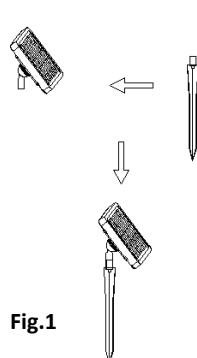

Fig.1
- Choose a place to locate the unit where there is abundant and unobstructed sunshine during the day. Any cover or shade on the solar panel will affect its performance to charge the battery resulting in a shorter run time of the light during the night (Fig.1). IDEAL LOCATION OF THE SOLAR PANEL WILL BE FACING SOUTH AT A 45 DEGREE ANGLE TO THE HORIZON.